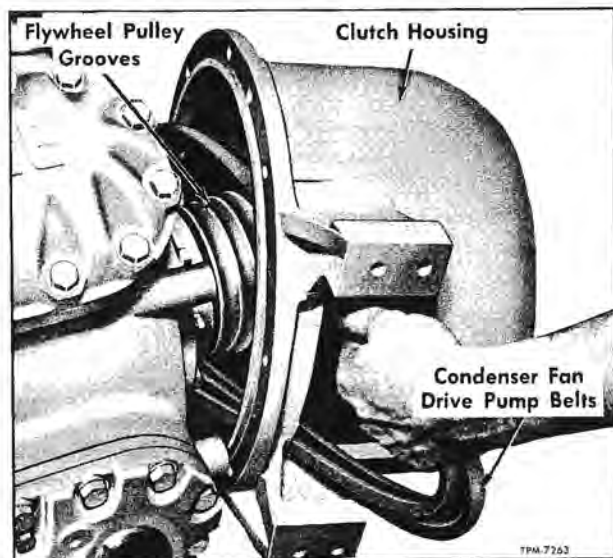

Figure 103—Installing Clutch Housing
1. With three condenser fan drive belts located in clutch housing as shown in figure 103, position clutch housing assembly to compressor. Install eight attaching bolts (13 and 14) with special flat washers (23).